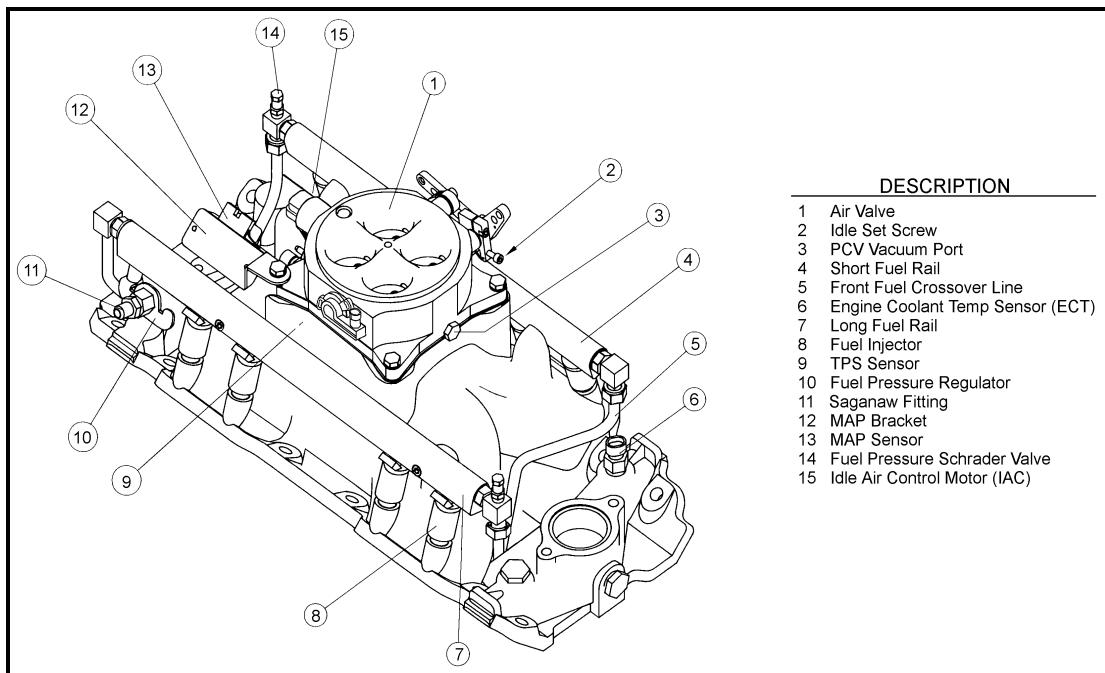

Figure 1
13. Install the Schrader valve to the front of the fuel rail if not already installed. Use PTFE tape or liquid PTFE sealer. **See Figure 1.**
15. Next install the throttle body. The throttle body is in a separate box in the kit, which contains the gaskets needed. First, install the gasket that matches the manifold base. Next, install the steel plate included with the throttle body. Then, install the gasket that matches the plate. Install the throttle body with the 4 5/16-18 bolts and washers included. The MAP sensor bracket is attached by the rear, passenger side bolt. Install the MAP sensor first with the two 10-32 x 1" screws and #10 washers. **See Figure 1.** The throttle cable bracket is attached with the rear driver's side bolt. The bracket in the kit works with most throttle cables and transmission cables.